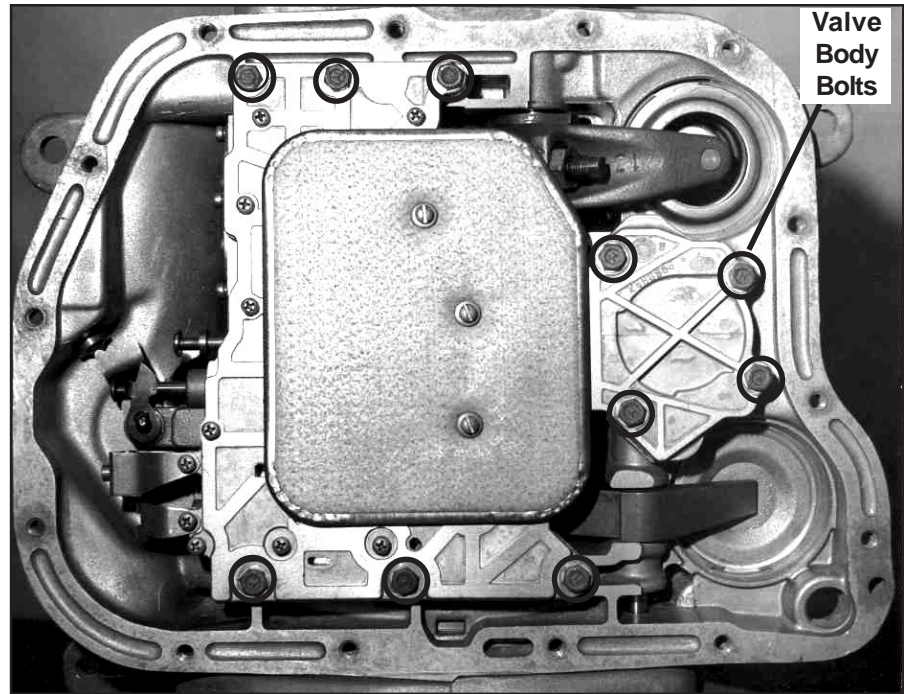
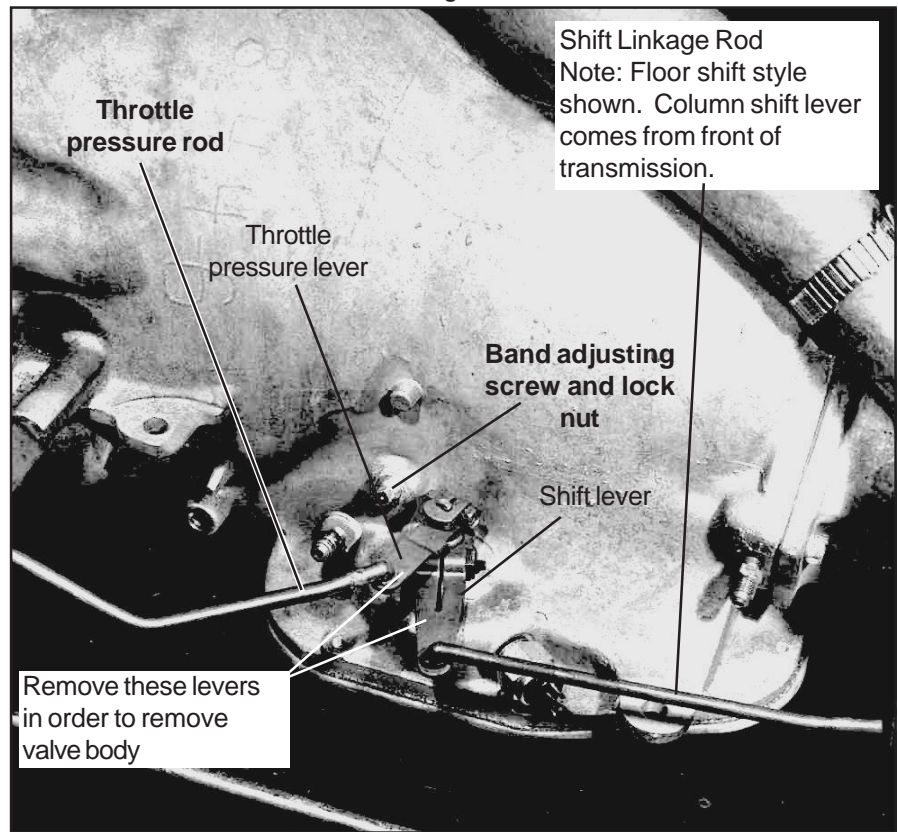

Figure 1
Figure 2
STEP 2. The valve body will now be exposed. (See Fig. 1) It is held in place by ten ¼-20 bolts. Before the valve body can be removed you must disconnect shift and throttle linkage. (See Fig. 2) Throttle linkage is located on the left (driver) side of the case just above the valve body. The lever is attached to the throttle shaft
STEP 4. Adjust front band. Loosen locknut. (See Fig. 2) Tighten band adjusting screw to 72-in. lbs. (snug). Then back off adjusting screw two full turns. Hold band adjusting screw and tighten 3/4" jam nut securely.